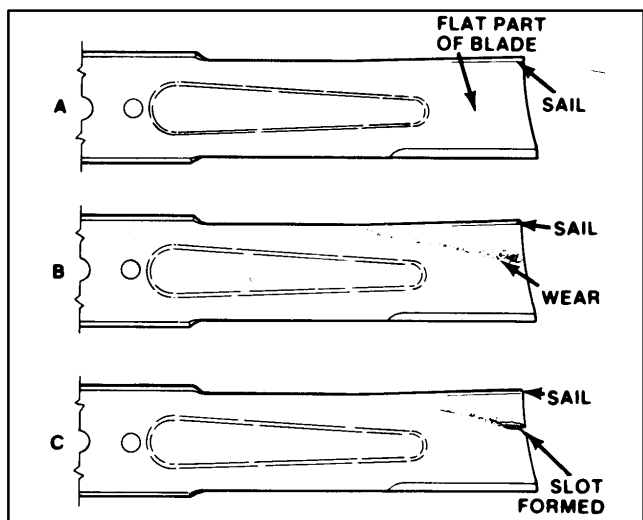

Figure 27
(Fig. 27 – 28)
4. Examine cutting ends of the blade carefully, especially where the flat and curved parts of the blade meet (Fig. 27–A). Since sand and abrasive material can wear away the metal that connects the flat and curved parts of the blade, check the blade before using the machine. If wear is noticed (Fig. 27–B), replace the blade: refer to Removing Cutter Blade.
If blade is allowed to wear, a slot will form between the sail and flat part of the blade (Fig. 27–C). Eventually a piece of the blade may break off and be thrown from under the housing, possibly resulting in serious injury to yourself or bystander.